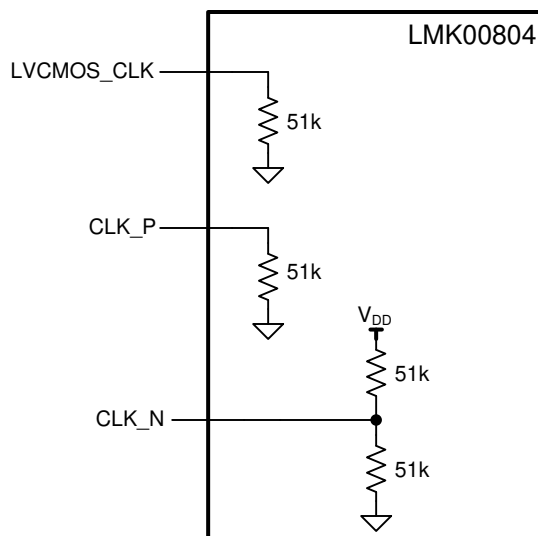

FIG 12. Clock Input Components
- **CLK_P/CLK_N Inputs:** See 図 12 for the internal connections. When using a single-ended input, take note of the internal pullup and pulldown to make sure the unused input is properly biased. To interface a single-ended input to the CLK_P/CLK_N input, the configuration shown in 図 14 is recommended.
- **LVC MOS_CLK Input:** See 図 12 for the internal connection. The internal pulldown (PD) resistor ensures a low state when this input is left floating.